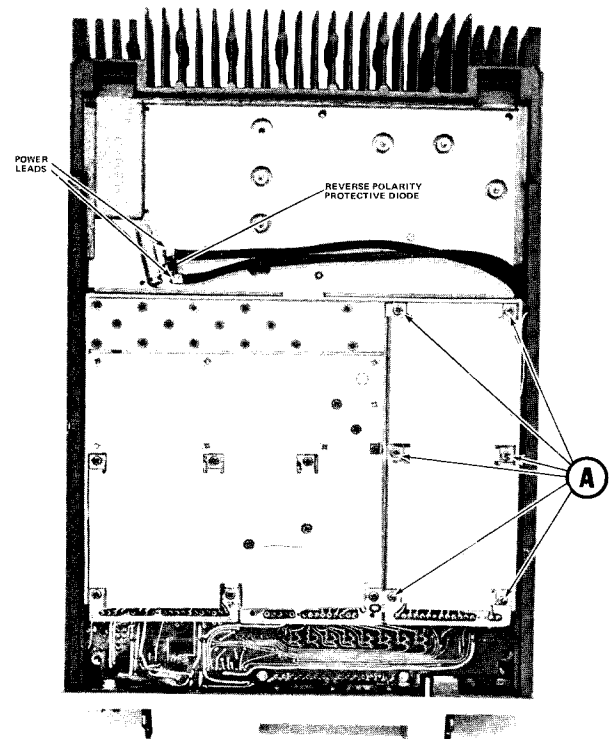

Figure 3 - Disassembly Procedure
- To gain access to the bottom of the exciter board, remove the six screws (A) holding the exciter board and its bottom cover to the module mounting frame, and remove the bottom cover (See Figure 3).
- Remove the six screws (A) holding the exciter board and its bottom cover to the module mounting frame. (Figure 3).